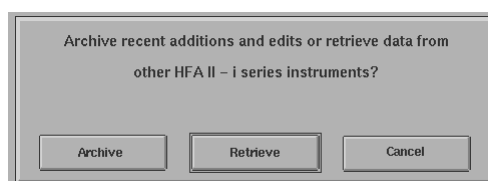

Figure 14.22 Archive/Retrieve Selection Dialog
- 2 You will see a dialog like that shown in Figure 14.22. Select RETRIEVE.